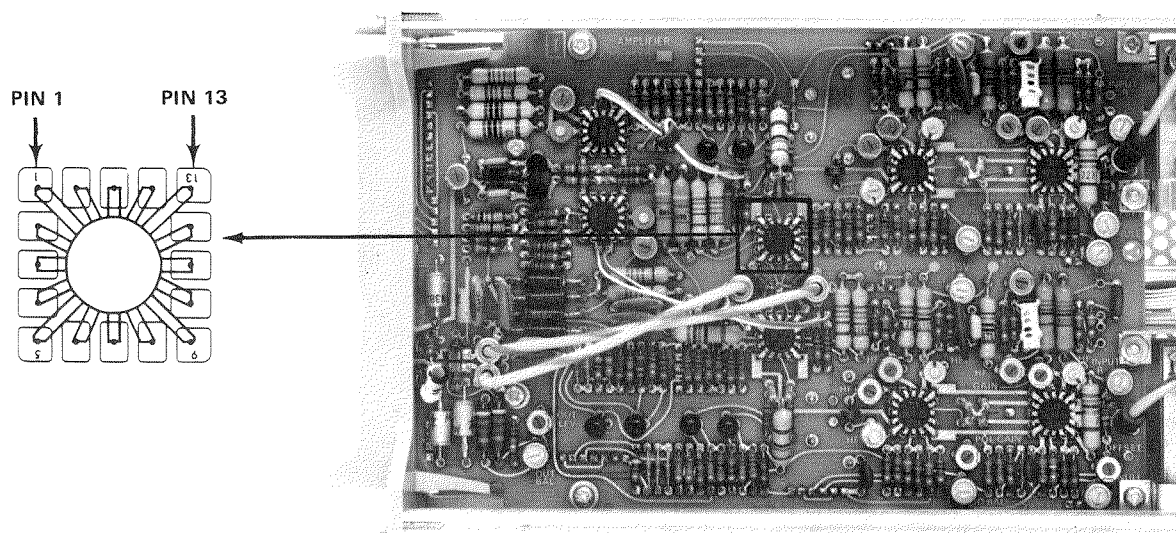

Fig. 5-2. Location of pins 1 and 13, U1550.
- Set the CH 1 POSITION for zero volts between pins 1 and 13 of U1550 (see Fig. 5-2).